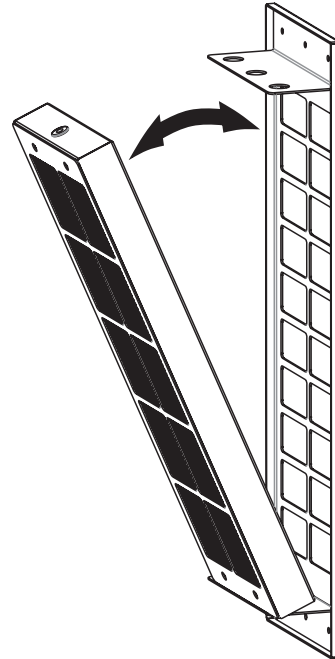

Fig. 9
- 3. → Remove the active carbon filter (Fig. 9).